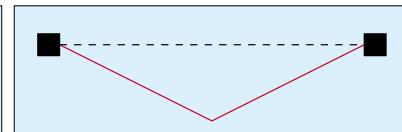

Figure 2: The plucked string a fraction of a second after release.
► audible result is nevertheless as similar as it is possible for two such different synths to be. Moreover, although the SH101 is unable to recreate much of the patch in Figure 2, set up carefully and played sympathetically it can still sound remarkably brassy.
Each point on the string now starts moving towards the dashed line. Once the string reaches this point, its tension stops accelerating it, and begins to decelerate it as it stretches in the other direction. At some point soon after, the string comes to rest in the position shown in Figure 2 (above right), and at that moment the forces begin to pull it back towards its starting position.